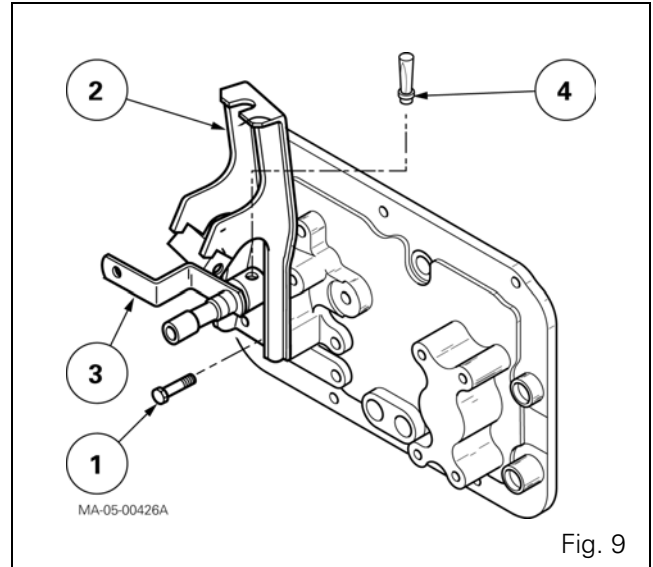

Fig. 9
35. Take out the screws (1). Remove the key (4) and selector (3). Separate the bracket (2) from the cover (Fig. 9).
36. Take out the screws (15). Separate the cover (9) and bracket (16) comprising the gear shift assembly. If necessary, extract the locating rings (17).
61. Refit the selector (3). Fit home and tighten the key (4) (Fig. 9).
62. In the grid (14), move the finger (13) from 1st to 4th gear ratio using the selector (3) (Fig. 9) and manually check for the correct locking of the indexing pin in each of its positions.